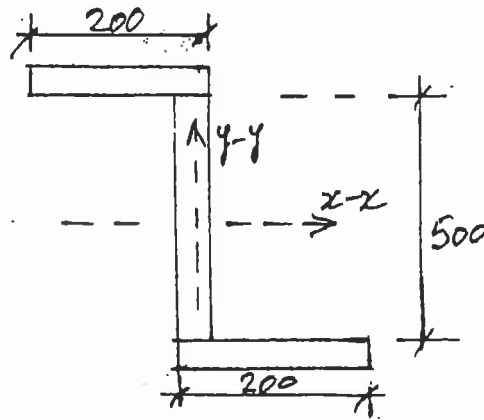

FIGURE A1
- A1. Figure A1 shows a steel cross-section fabricated from 20 mm G40.21 350W steel plates. Determine the section moments of resistance about the two centroidal axes, x-x and y-y.